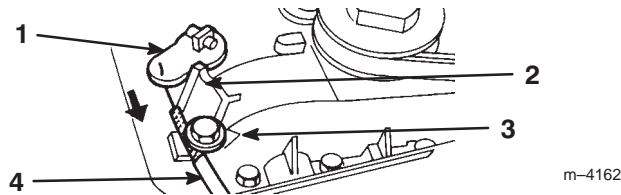

Figure 32
5. Loosen the cable retaining screw (Fig. 32).